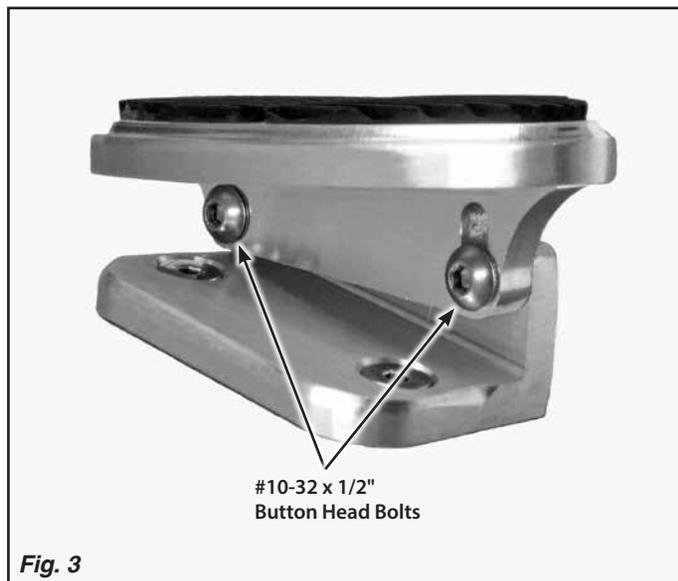

Fig. 3
Step 5: Reinstall the foot rest pad onto the foot rest base using the #10-32 x 1/2" button head bolts. **Fig. 3** Adjust the foot rest pad to the most comfortable angle before tightening the button head bolts.